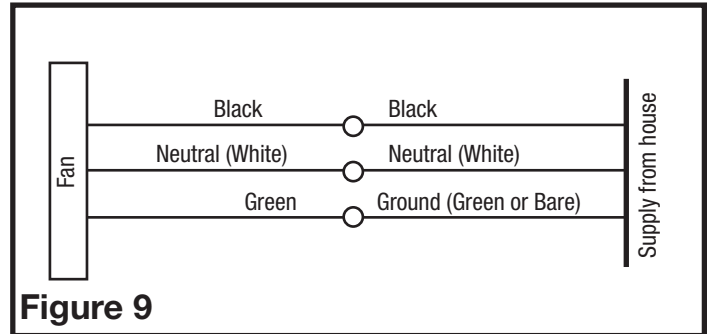

**Figure 8**
2. **Continuous Ventilation:** For two speed fans wired for continuous ventilation, connect the White wire of the fan to the White (Neutral) wire from the power source. Connect the ground wire from the house to the green wire from the fan housing. Connect the Black wire of the fan to the Black wire (Hot) from the power source. Connect the Hot Yellow wire from the fan to the input of the switch. Connect the second Yellow wire from the fan to the output side of the switch. Closing the switch will change from normal to high speed (**Figure 8**).